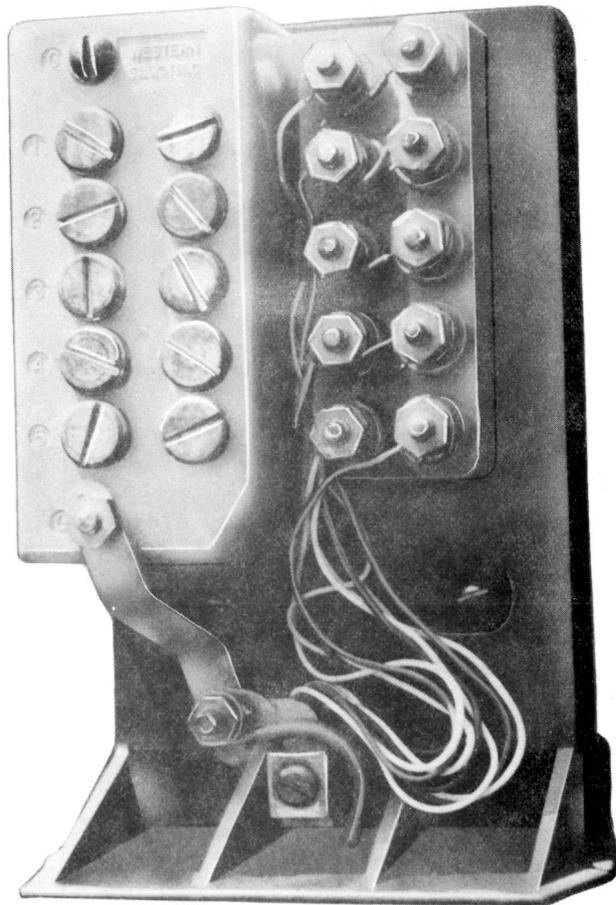

Fig. 23—142A1A Protector in C Customer Service Closure
3.28 The 142A1A protector (Fig. 23) is intended for use where the station is served by 5-pair service or drop wire. It consists of an insulating base with a threaded-stud grounding connector and five pairs of 2A1A protector units, though 11-type (gas filled) protector units may be used, wired to a 5-pair terminal block. It may be mounted in either a C or D customer service closure.